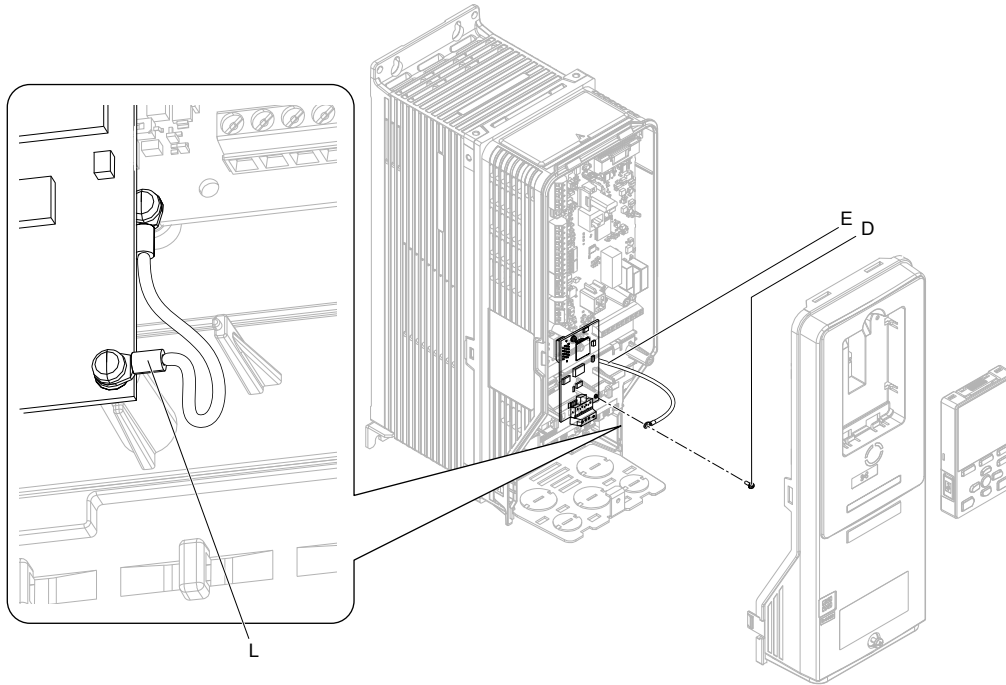

Figure 5.18 Connect the Ground Wire
Refer to Figure 5.18 for instructions about crimp terminal (L) orientation and wire routing.